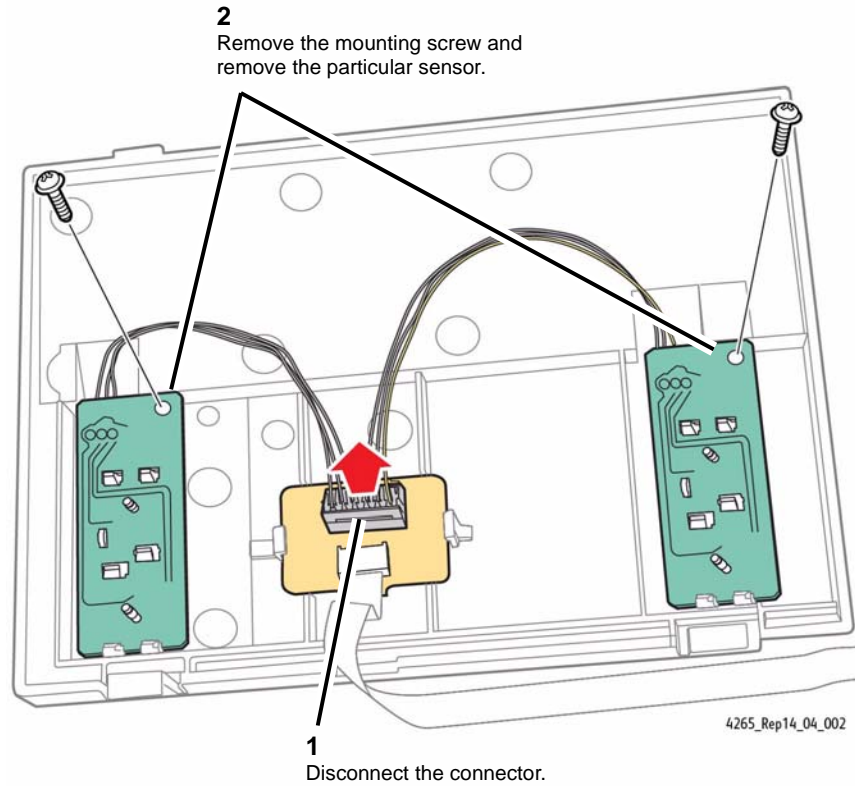

Figure 2 Removing the Size Sensors from the Cover
5. Remove the Document Size Sensor(s) from the Sensor Cover (Figure 2).